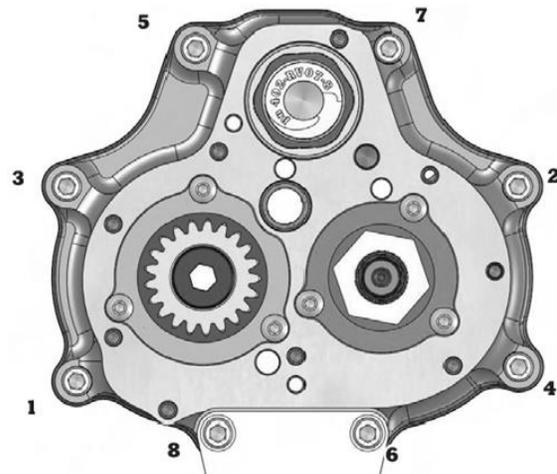

FIGURE 27 | BEARING DOOR TORQUE SEQUENCE
2. After sliding the gearset into the case, install the 8 bolts with washers using blue thread lock. Tighten the bolts following the torque sequence in figure 27. Make sure to re-install the exhaust bracket under the two bottom bolts. Torque bolts to 220 in-lbs.